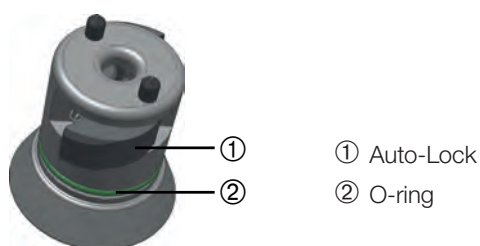

Figure 2-12: Auto-Lock on the drive shaft
- Inspect the Auto-Lock and O-ring (Figure 2-12); both must be clean and undamaged.